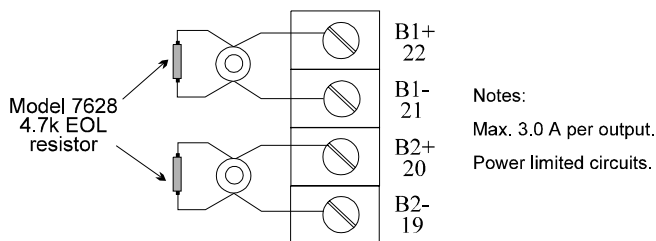

Figure 3-9. Class B Notification Appliance Wiring
1. Wire as shown in Figure 3-9.